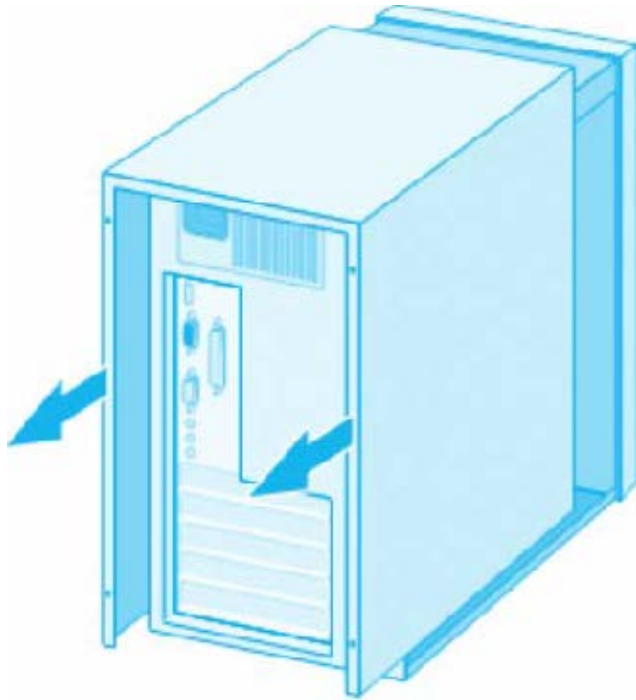

Figure 1. Removing the PC Cover
2. Remove the system cover and select any empty PCI-64 slot. See Figure 1 below.